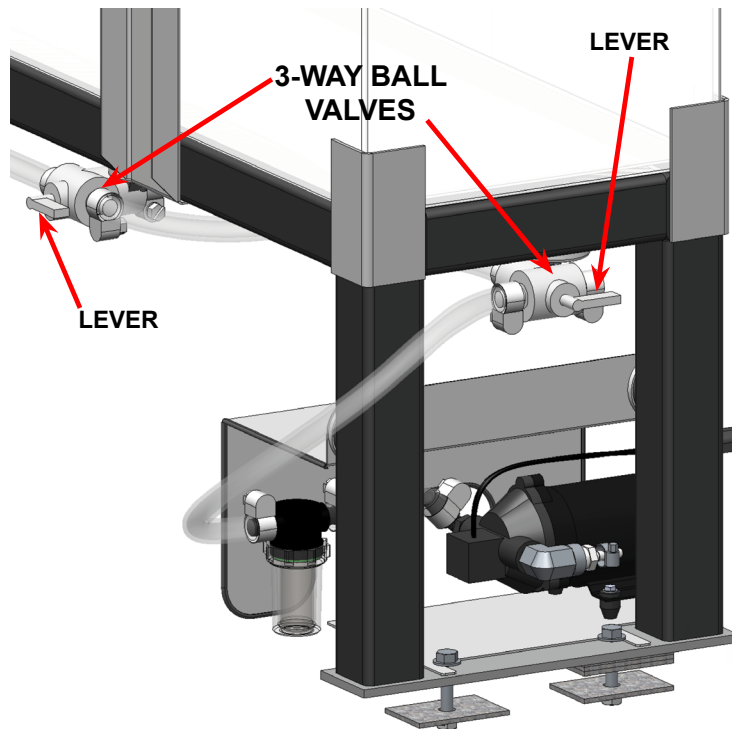

Figure 2-5. Flex Pump Levers
1. Make sure the 3-way ball valve levers are all in the downward or vertical position (see Figure 2-5). The levers on the Flex pumps control the direction of the chemical flow. When the levers are in the vertical position, the flow is turned “OFF”.
There are 2 levers on the 35 Gallon/15 Gallon Tank Assembly, one for each tank (see Figure 2-5). There is 1 lever located on the 3-way ball valve on the 50 Gallon Tank Assembly (see Figure 2-6).